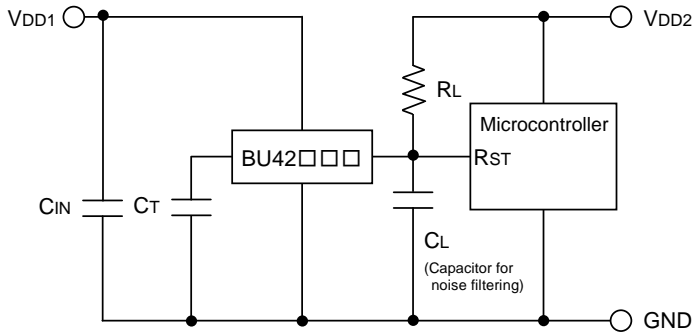

Fig.19 Open collector Output type
The power supply of the microcontroller (Vdd2) differs from the power supply of the reset detection (Vdd1). Use the Open Drain Output Type (BU42□□G/FVE) attached a load resistance (RL) between the output and Vdd2. (As shown Fig.19)